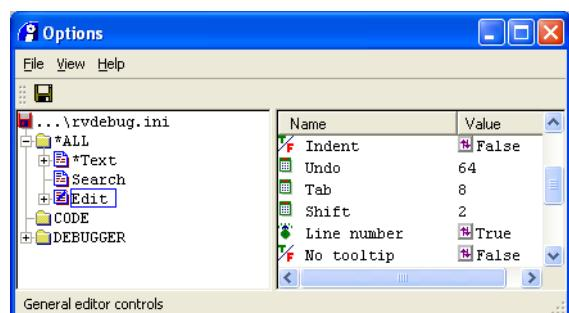

Figure 4-13 The line number workspace setting
3. Select the Edit entry. The Edit settings are displayed in the right pane, shown in Figure 4-13.